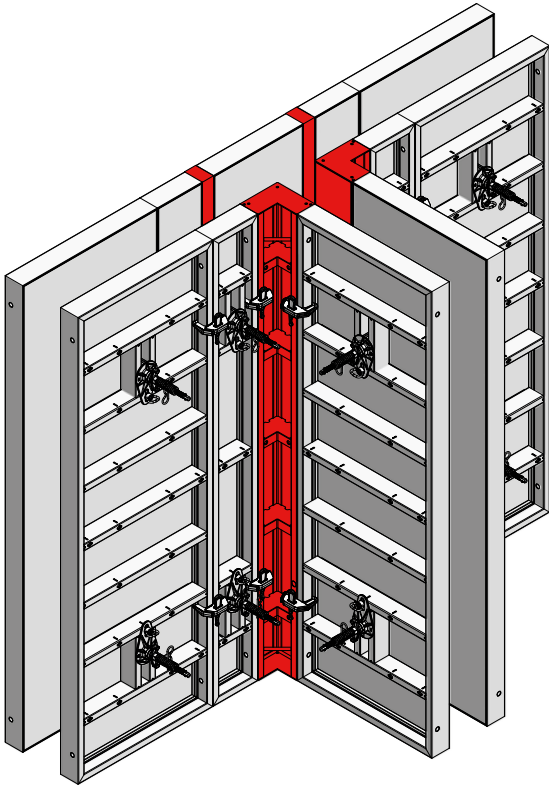

Fig. 54.1
A T wall connection can be formed using two ST inside corners (IC) (Fig. 54.1).
Depending on the wall thickness, timber fillers with the corresponding thickness are used on the long wall opposite the inside corner (Figures 54.1 and 54.2 and Table 54.3).
30 cm wide StarTec XT panels are to be installed next to the inside corner (Fig. 54.1 and 54.2).